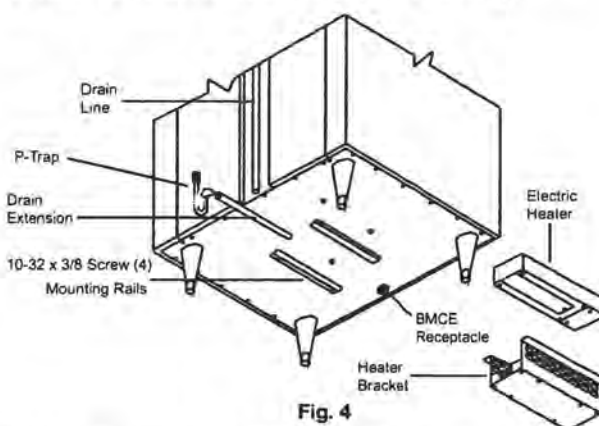

Fig. 4
holes on the exterior bottom towards the rear of the cabinet. Then, using the four (4) screws provided, attach the mounting rails to the cabinet bottom (the end flange is to be up and be facing towards the cabinet rear). Next, place the heater into the heater bracket (note the enclosed springs are only to be used when the heater is placed on the floor). Slide heater and bracket into the mounting rails. Plug the supplied cord into both the heater on one end, and the electrical outlet provided on the cabinet exterior bottom towards the front (see figure 4). Screw the "P-Trap" on to the drain line located on the rear of the cabinet and then screw the drain extension into the "P-Trap."